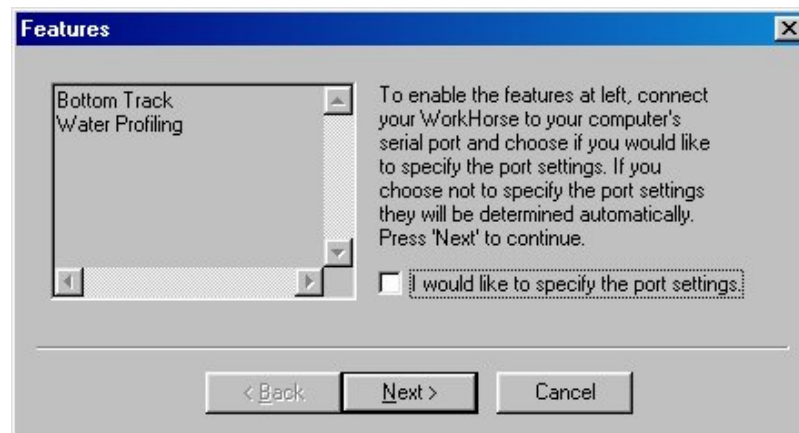

Figure 25. Installing Feature Upgrades
- d. In the **Open** box, type A:xxx.exe, where xxx is the ADCP’s CPU serial number. The installation program will start (see Figure 25). The program is encoded with the ADCP’s serial number and the requested feature upgrade.